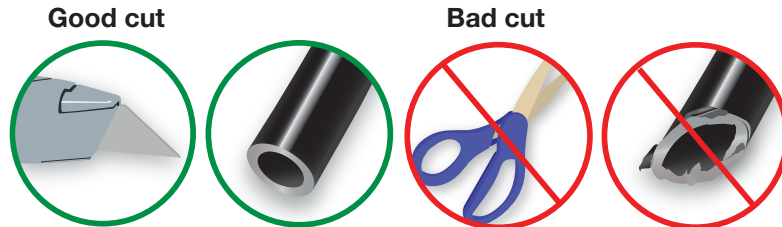

fig. 17
1. Cut the air line in half. Make clean, square cuts with a razor blade or hose cutter (Fig. 17). Do not use scissors or wire cutters.